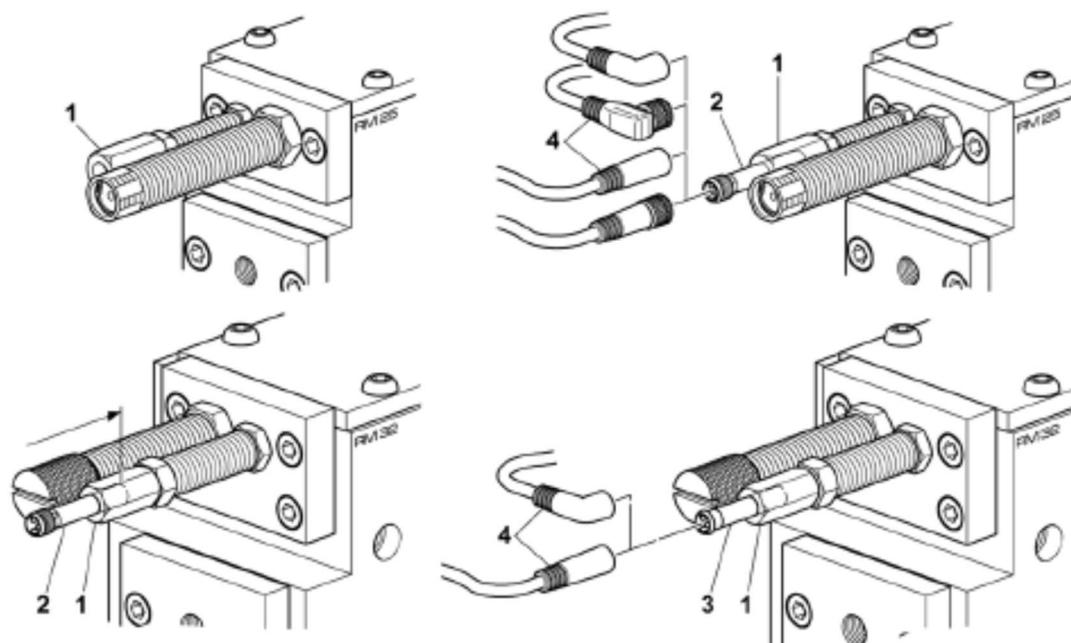

Fig.39
3.3.9 Montage Initiator 6.5 mm (Fig. 39)